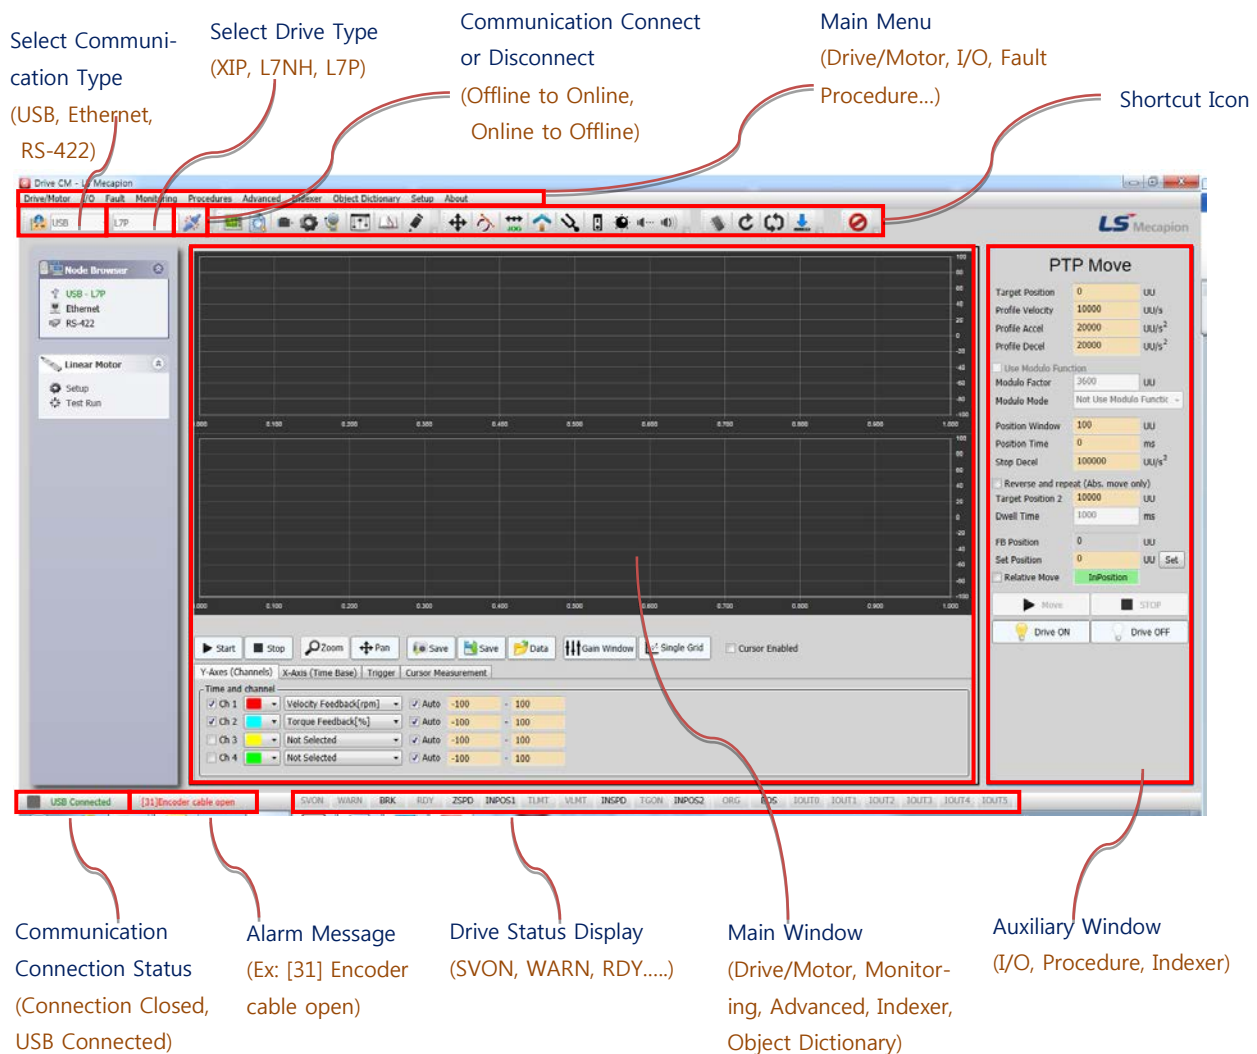

Figure 3-1
The following Figure 3-1 shows the Main Dialogue screen that is displayed when Drive CM is first run.
- (1) Select USB from the three options of USB, Ethernet or RS-422 at the top-left of the screen, as shown in Figure 3-1.
Select Ethernet from the three options of USB, Ethernet or RS-422 at the top-left of the screen, as shown in Figure 3-1.
Select RS-422 from the three options of USB, Ethernet or RS-422 at the top-left of the screen, as shown in Figure 3-1.